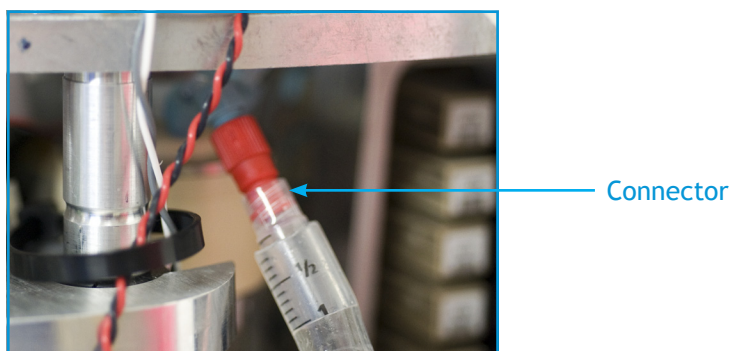

Figure 4-11: Connection in Air Clean line
- b. Follow the line from the port to the in-line connector (see Figure 4-11). The connector is located between the PSV and the Clean Air container.